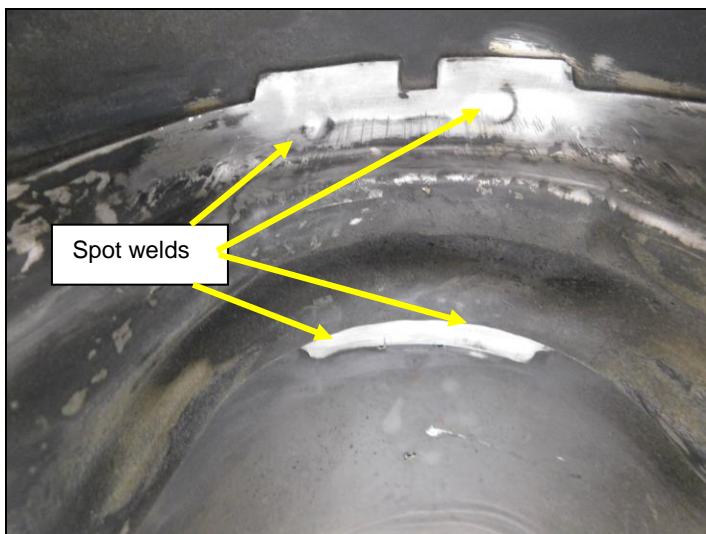

Figure 3
3. Clean any dirt, grease, and paint from the flange along the top of the factory hoop where it is spot welded to the transmission tunnel. Cleaning the metal will expose the location of the spot welds (**Figure 3**).